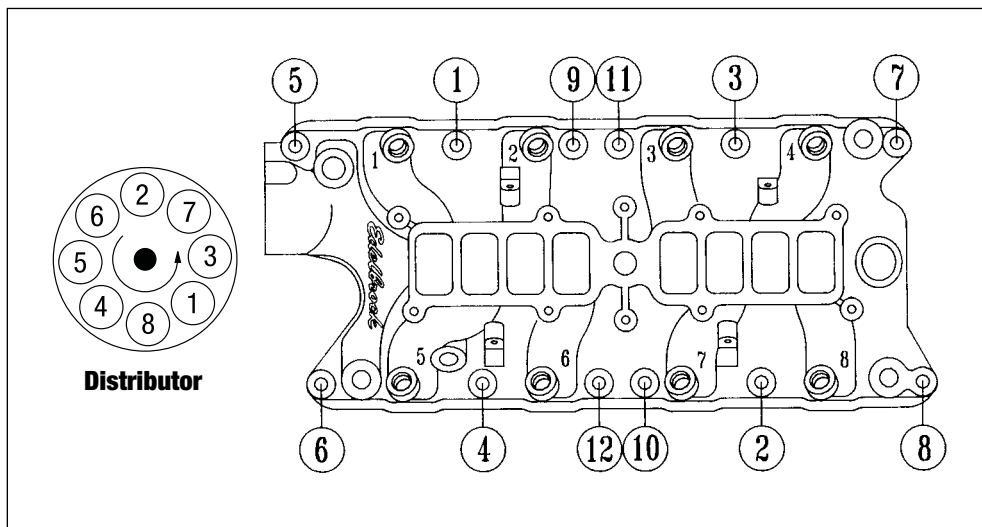

Figure 1 - Intake Manifold Tightening Sequence and Firing Order
4. For ease of installation, we recommend using Edelbrock manifold bolt and washer kit #8524. It may be necessary to re-use the original stud bolt to hold heater tube bracket in hole #3 **(See Figure 1).**
5. Install lower intake manifold and retaining bolts. Tighten bolts to 15-18 ft./lbs. in sequence **(See Figure 1).**